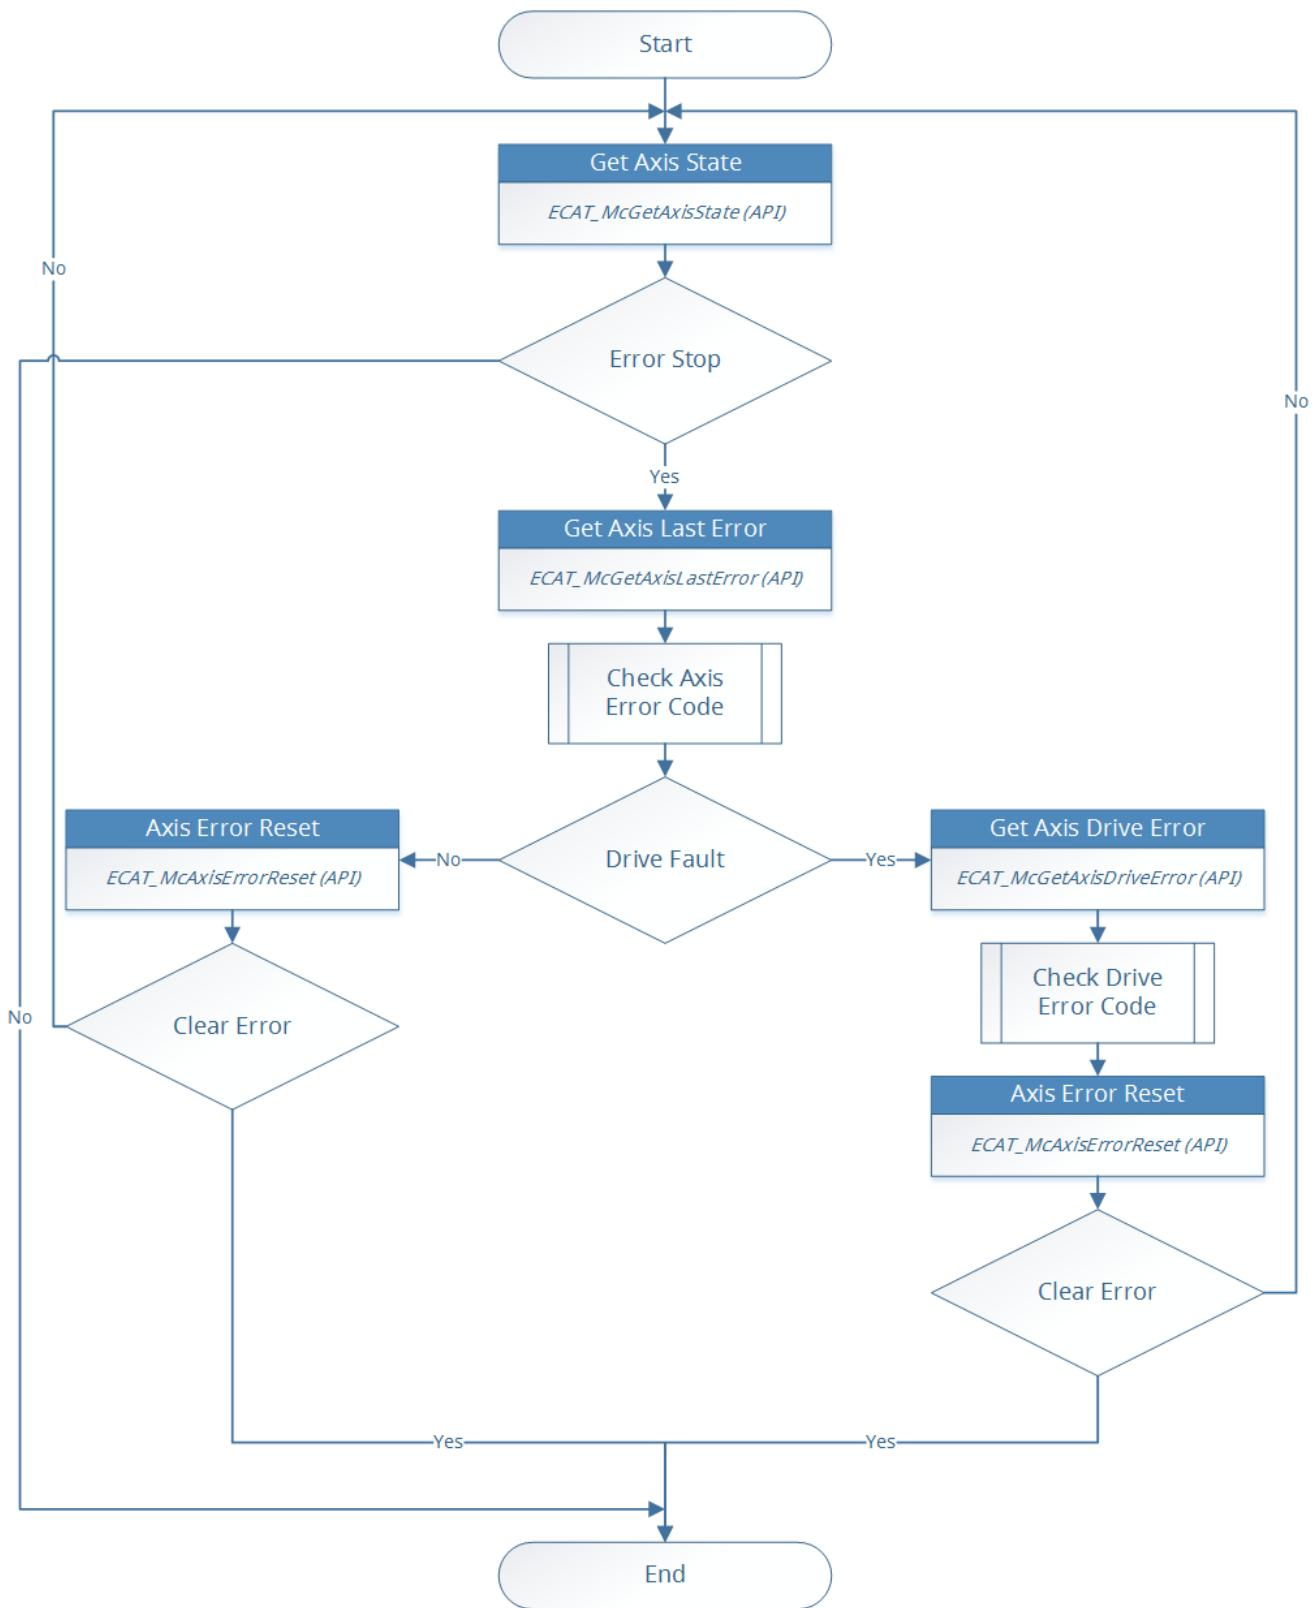

Figure 4.6
As shown in Figure 4.6, when the axis state is ErrorStop, *McGetAxisLastError* function can be used to get the error code. From the error code, the cause of error can be determined. The error handling includes two parts: (1) If the error is not a servo drive error, the user can call *McAxisErrorReset* to clear the error. The axis state will be changed from ErrorStop to Standstill. (2) If the error comes from a servo drive, *McGetAxisDriveError* function can be called to get the drive's error code, and then call *McAxisErrorReset* to clear its error. Some servo drive errors can be cleared by the reset command; but some can not. If the reset command does not change the axis state back to Standstill, please restart (turn the power off than on) the servo drive to clear its error.